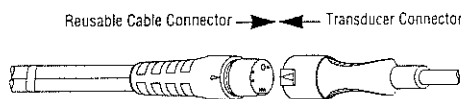

Figure 3. Transducer Interface Cable Connection.
To connect this transducer to a NL108A Pressure Amplifier, use a NL108L2 - Interface cable - see Figure 3.
1. Connect transducer to reusable interface cable by aligning the connector arrows and pushing the connectors together (see Figure 3).